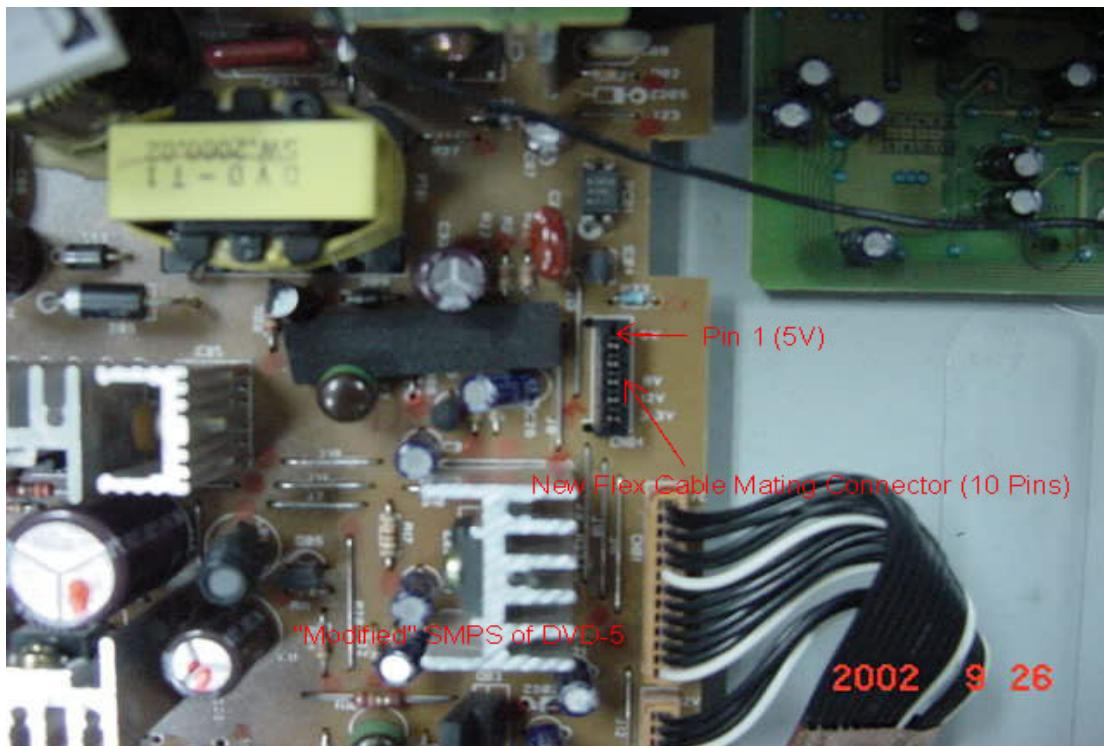

Figure 4. "Modified" DVD5 Power Supply
- a) **Early Version: Molex Connector should be replaced with 10-Pin FCC connector, part# 55284430 on POWER SUPPLY module.** See Figure 4. After replacing original molex connector, connect the loader and power supply with 10 wire - FCC CABLE, part# 55174870. Connect Pin 1 → Pin1 and Pin 10 → Pin 10. Refer to *Figure 4* and *Figure 6*.